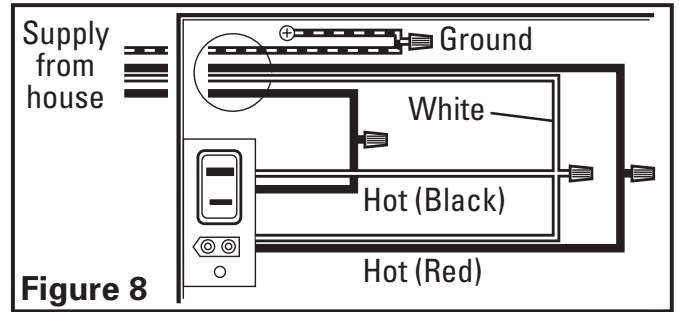

Figure 8
- 1a. From where you have access to inside the fan's junction box, connect the one white wire from the house to both the white wire from the fan's light receptacle and the white wire from the fan's exhaust receptacle. Connect the first black wire from the wall switch to the black wire from the fan's light receptacle. Connect the second black wire from the house to the fan's exhaust receptacle. Connect the ground wire from the house to the green wire from the fan's grounding screw (Figure 8). Use approved methods for all connections.